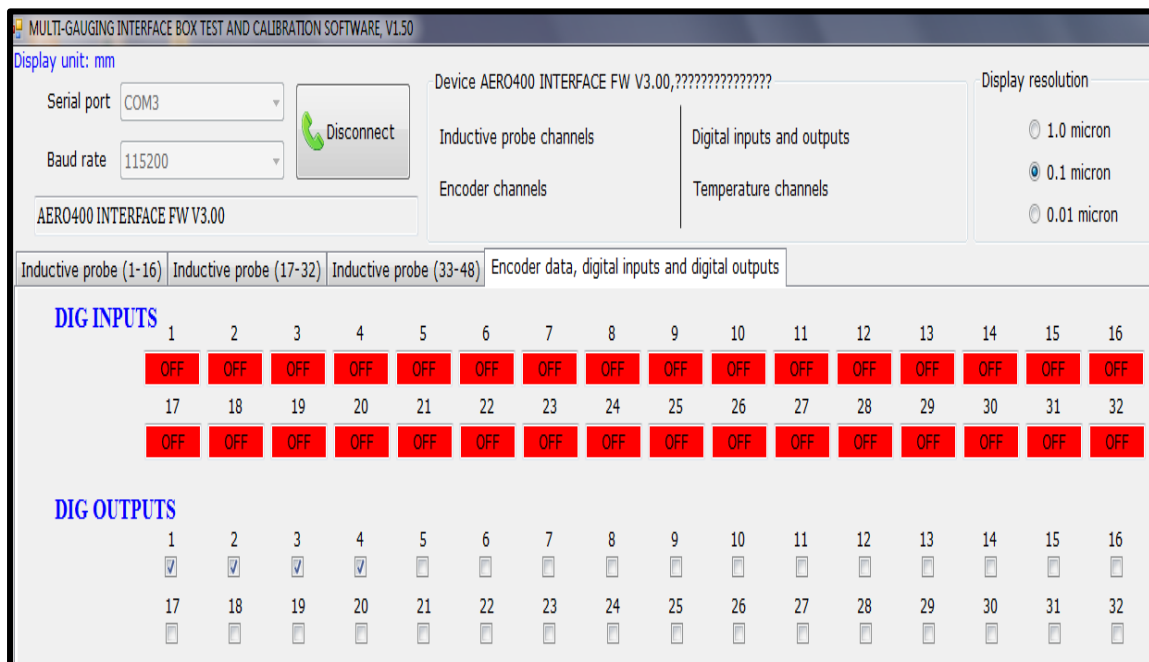

Figure 11
- Digital input will show in ON or OFF as shown in Figure 11.